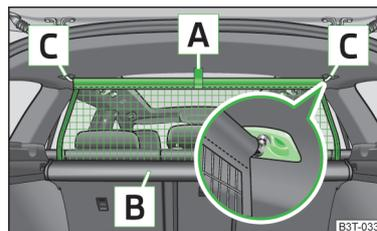
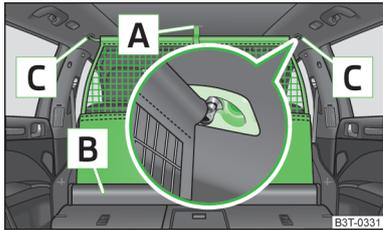

Fig. 119
Fig. 120
- Make sure that the transverse rod is inserted into the mounts **C** » Fig. 119 on page 107 or » Fig. 120 on page 108 in the forward position.
- Pull the net partition by the tab **A** » Fig. 119 in the direction of the fasteners **C**.
- Pull the transverse rod back slightly first on one side and then on the other and remove it from the mounts **C** » Fig. 119.
- Pull the net partition by the tab **A** » Fig. 120.
- Pull the transverse rod back slightly first on one side and then on the other and remove it from the mounts **C** » Fig. 120.